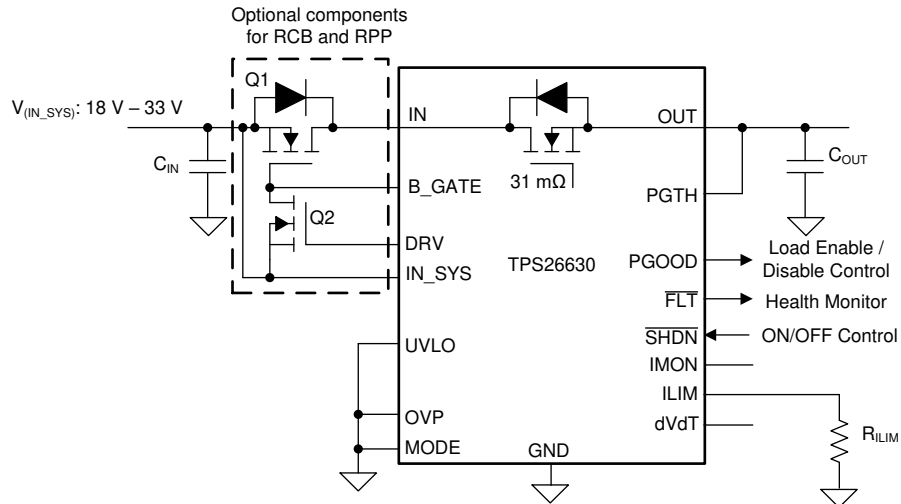

图 10-11. TPS26630 Configured for a Simple 24-V Supply Path Protection
With the TPS2663x devices, a simple 24-V power supply path protection can be realized using a minimum of five external components as shown in the schematic diagram in 图 10-11. The external components required are: a N - Channel Power FET Q1, a N - Channel signal FET Q2 and a R(ILIM) resistor to program the current limit, C(IN) and C(OUT) capacitors.